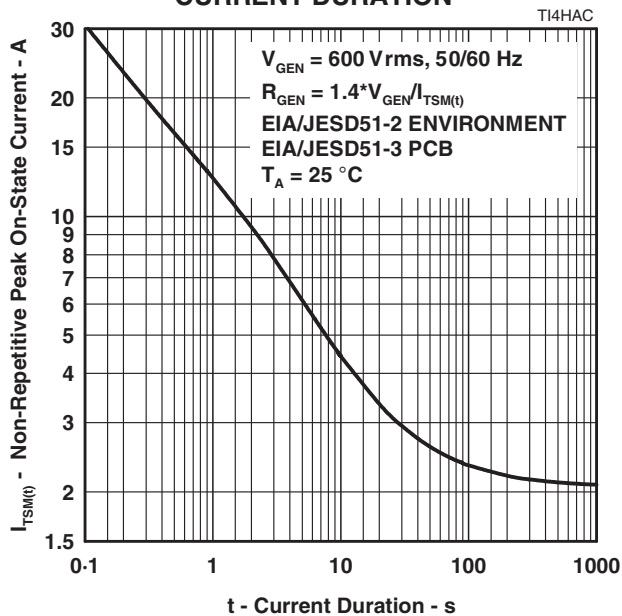

Figure 6.
4. EIA/JESD51-2 environment and EIA/JESD51-3 PCB with standard footprint dimensions connected with 5 A rated printed wiring track widths. See Figure 6 for the current ratings at other durations. Derate current values at $-0.61\% / ^\circ\text{C}$ for ambient temperatures above 25°C .